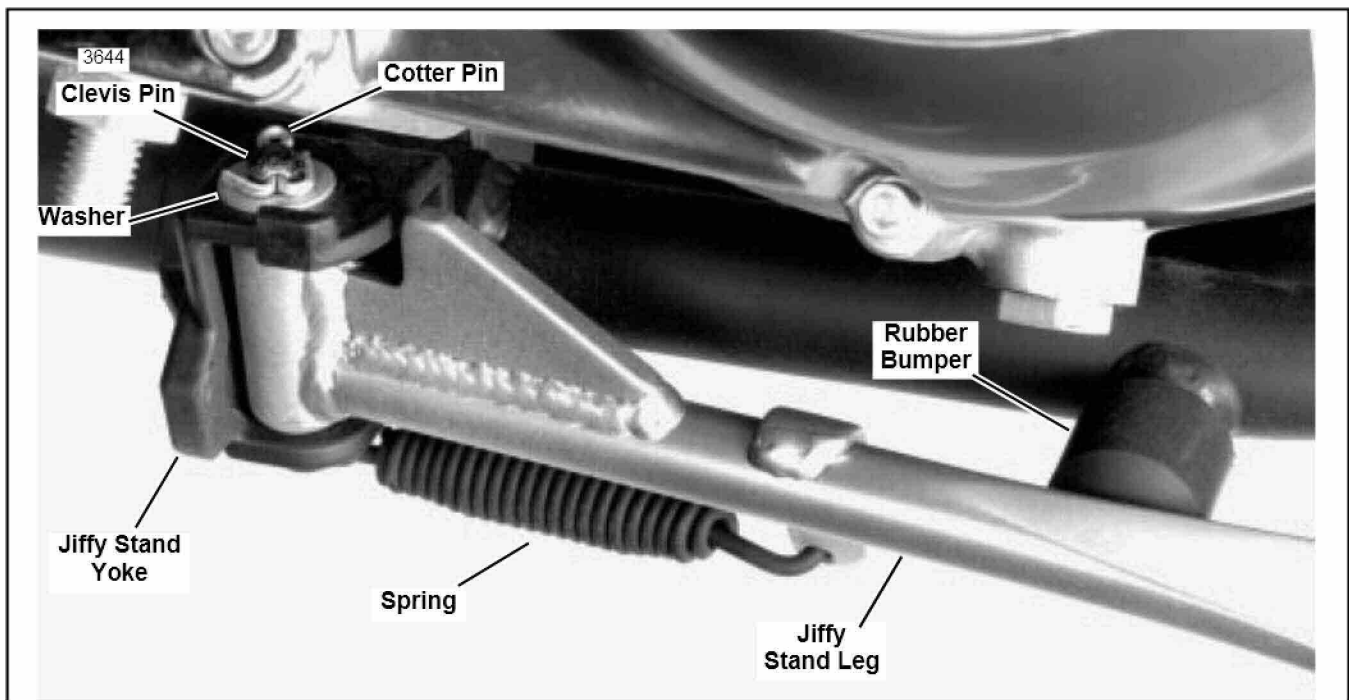

Figure 2. Jiffy Stand Assembly (Left Side View)
2. See Figure 2. Remove rubber bumper from frame to permit further retraction of jiffy stand leg. Additional spring tension relief allows for easier spring removal.
4. See Figure 2. Lift jiffy stand leg upward, aligning pivot hole of jiffy stand leg with slotted upper hole of yoke. Fully insert clevis pin through holes in jiffy stand leg and yoke.